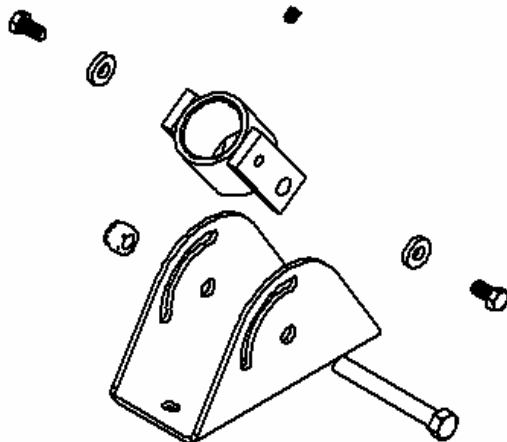

Figure 1. Assembly
1. Set coupler in place in the center of ceiling plate and slide ½"-13 X 4" hex head bolt through both parts (see Figure 1). Secure using ½"-13 Nylock nut.
2. Install two 3/8"-16 X 5/8" hex machine screws, with ¾" washers, through adjusting slots on either side of bracket into holes in the coupler assembly (see Figure 1). Do not tighten.